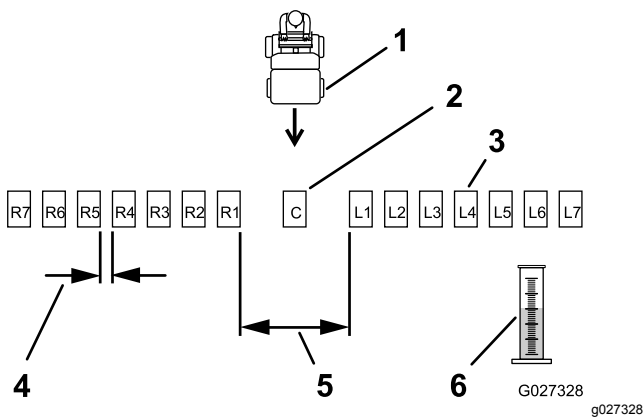
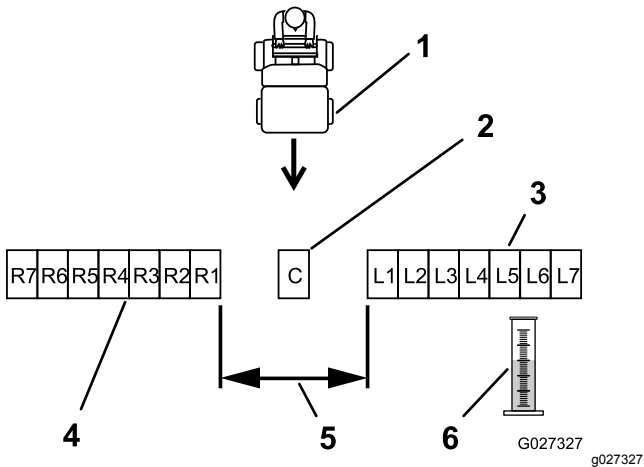

Figure 21
Figure 22
2. Place the remaining pans in a straight line as shown in Figure 21 or Figure 22.
Space 6 additional pans, on each side, 12 inches (30 cm) apart (Figure 21).
Place 6 additional pans, on each side, with no gap in between each pan (Figure 22).
- Label each graduated measuring cylinder to correspond with the distribution pans (such as L2, L1, Center, R1, R2); refer to Figure 21 and Figure 22.